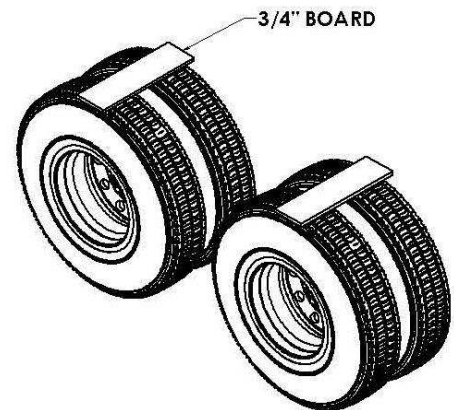

Figure 3
- a. For an air suspension system, place a  $\frac{3}{4}$ ” board on top of the tires after the air has been let out of the airbags (Figure 3). Place the fender on top of the board.